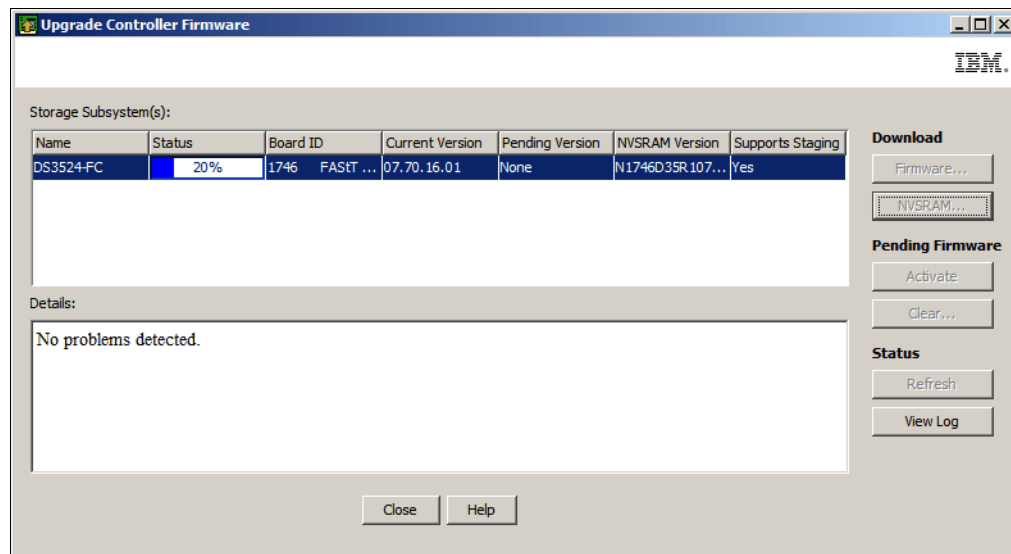

Figure 14-44 Firmware upgrade in progress
- The firmware upgrade tool will begin transferring the firmware images to the controllers. The status can be monitored in the tool (Figure 14-44).